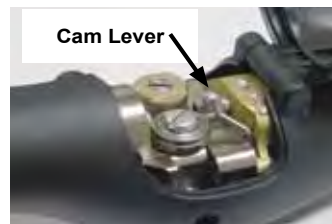

Figure 1
1. Pull the cam lever away from the idler roll. This will relieve the pressure against the drive roll (as shown in Figure 1).